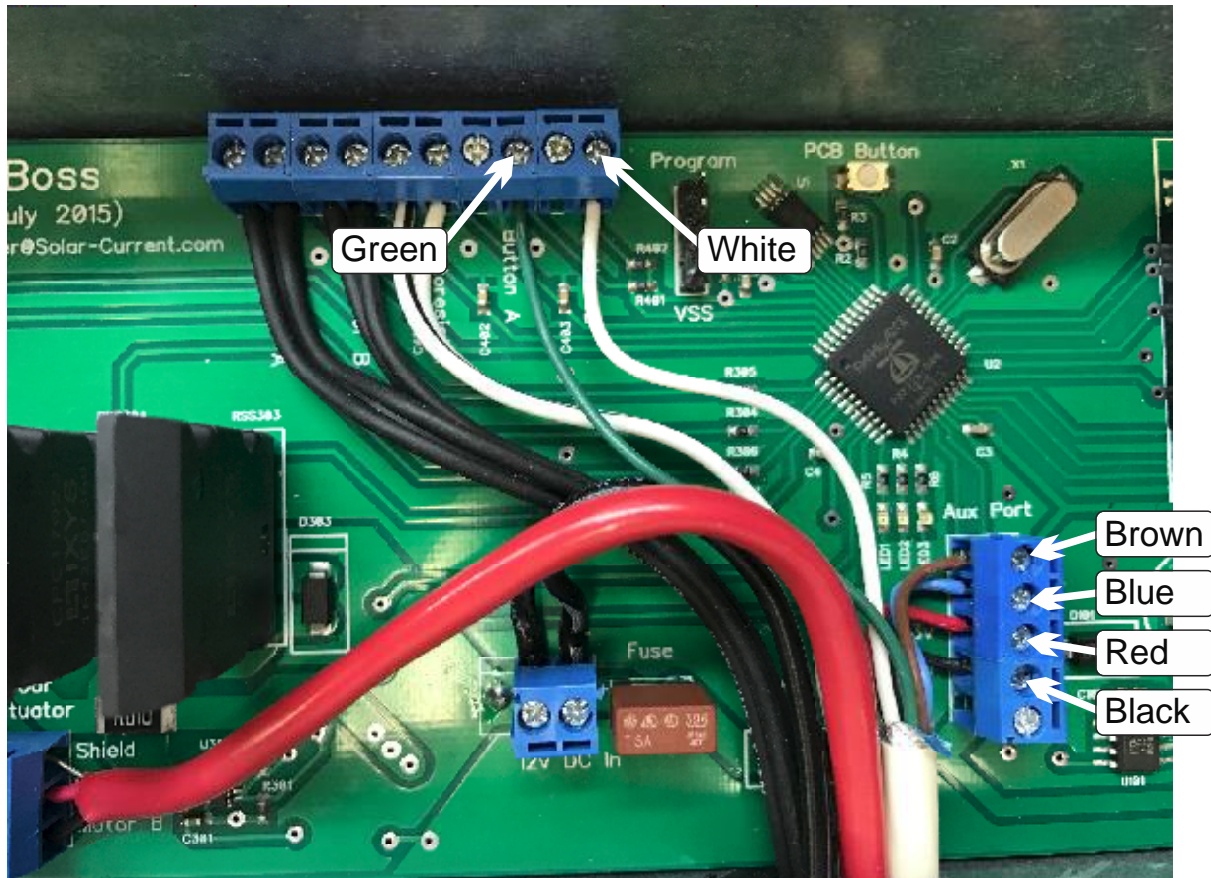

Figure 16
- 4) Connect the green and white wires to the Button A and Button B connectors at the top of the PCB. See Figure 16 for details. Connect the Brown wire to P15, Blue wire to P14, Red wire to 3.3v, Black wire to ground.